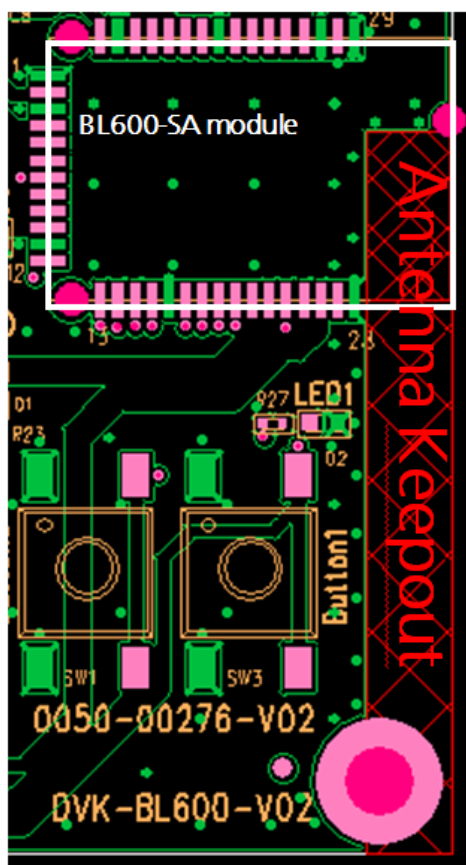

Figure 11: Antenna keep-out area (shown in red), corner of the BL600 development board for BL600-SA module.
- The BL600 development board has the BL600-SA module on the edge of the board (not in the corner). The antenna keep-out area is defined by the BL600 development board which was used for module development and antenna performance evaluation is shown in Figure 11, where the antenna keep-out area is ~4.2 mm wide, 34.2 mm long; with PCB dielectric (no copper) height 1.539 mm sitting under the BL600-SA antenna.
- **Host PCB Land Pattern and Antenna Keep-out** for BL600-SA applies when the BL600-SA is placed in the corner of the host PCB. When BL600-SA cannot be placed as such, it must be placed on the edge of the host PCB and the antenna keep out must be observed. An example is shown in Figure 11.
- Follow the 50-Ohms trace design used on the BL600 development board (PCB stack-up in Figure 11). If this PCB-stack-up is not practical on customer design then design 50-Ohms for differing PCB stack-up.